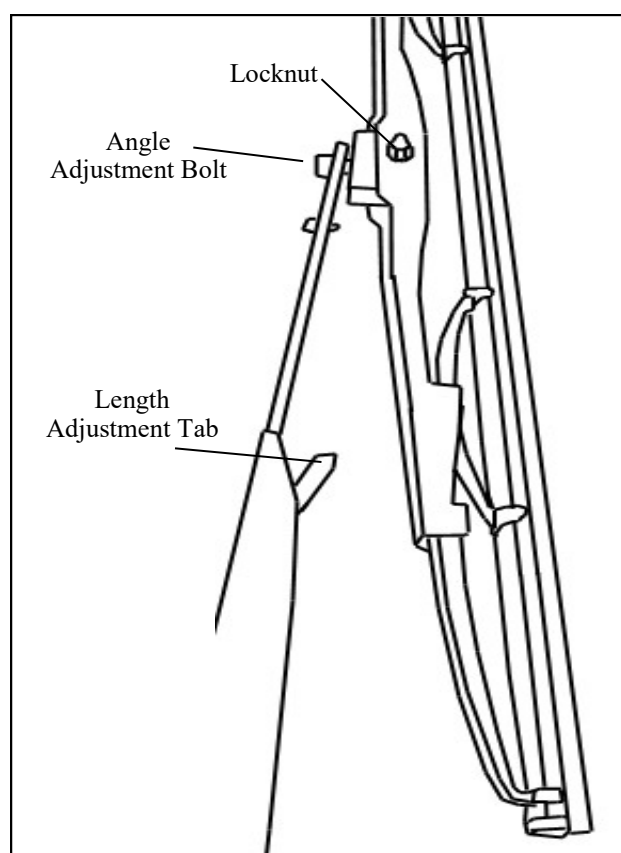

Figure 9.6: Wiper arm
- 9.6 Remove screw and locknut from wiper arm, and insert screw through upper mounting hole in wiper blade, and wiper arm hole. **(Figure 9.6)** Secure with the locknut.